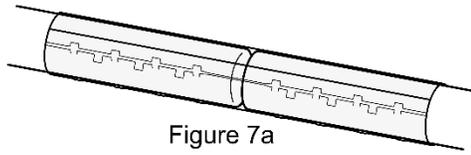
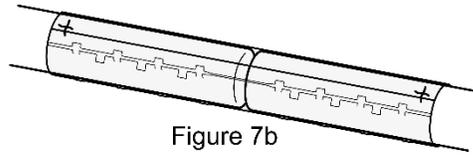

Figure 7a
Figure 7b
- 8.13 The finished repair is illustrated in Figure 7a (and with optional suture closure in Figure 7b).